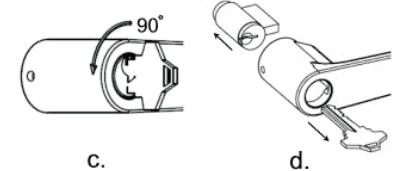

fig. 10
**3.5 Removing the Lever (if necessary):** Insert the key into Cylinder then rotate the key **CLOCKWISE 90°**, using Allen Wrench or a paper clip to push Lever Catch in then pull the lever out (see fig.10). Rotate the key **COUNTER CLOCKWISE 90°** then take key out. Use Screwdriver to rotate Cylindrical Protrusions, then the Lever Catch will protrude. Take the Lever Catch out and keep it in a safe place.